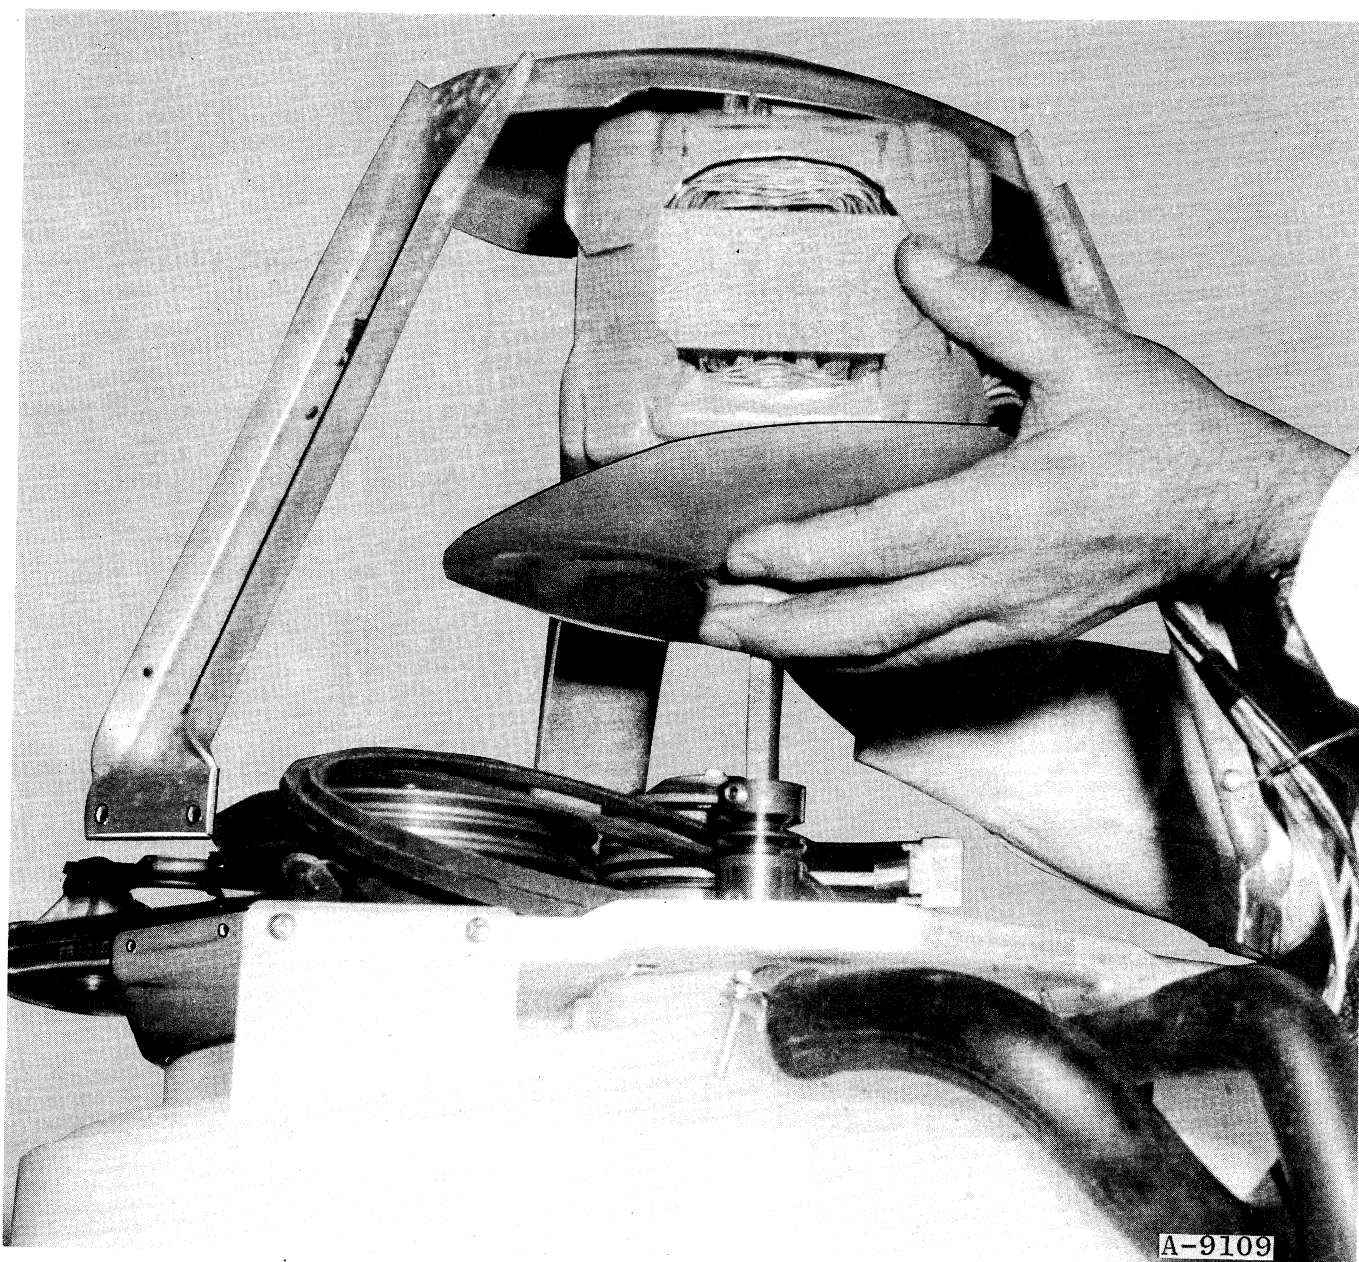

Figure 53
shown in Figure 53.
4. Carefully lift the support plate assembly with motor straight up until the motor shaft clears the drive sheave. See Figure 53.